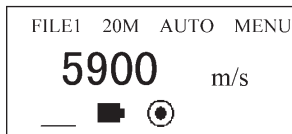

Figure 19
- a. Press MODE , move the cursor to MENU, as figure 19.
- a. Press MODE, move cursor to "MENU", as figure 19.
- a. Press MODE, move cursor to MENU, as figure 19.
- Press MODE, move cursor to "MENU", as shown in the figure 19.
- Press MODE, move cursor to "MENU", as shown in the figure 19
- a. Press MODE to move cursor to MENU, as figure 19
- a. Press MODE to select MENU, as that shown in the figure 19.